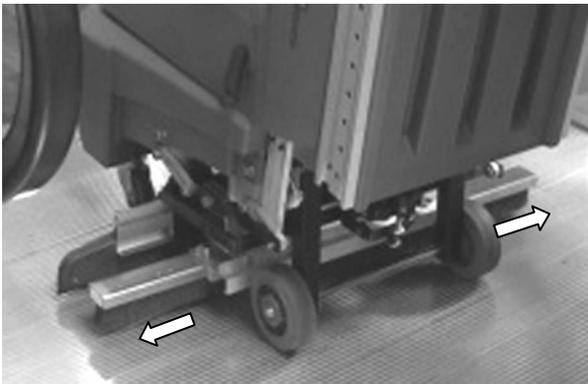
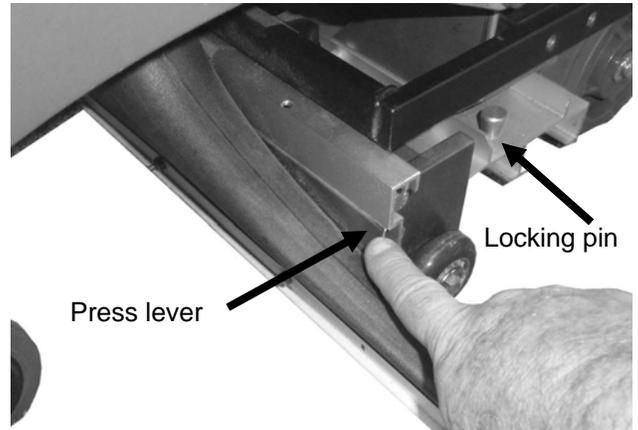

Fig. 4
Fig. 5
5. Roll the Kleenrite 2240 Escalator Cleaner onto the stationary tread of the escalator and center it between the two handrails. The front wheels should be behind the comb at this point. Extend each brush an equal distance from both sides of the brush holder so that when the machine is moved into the cleaning position the full width of the tread will be cleaned (up to 40" or 101cm) (Figure 4).
6. Be sure locking pins engage holes in the brush holder (Figure 5).
7. Extend both vacuum heads as shown in Figure 4. To move the heads it is necessary to press and hold the lever next to the vacuum head (Figure 5).